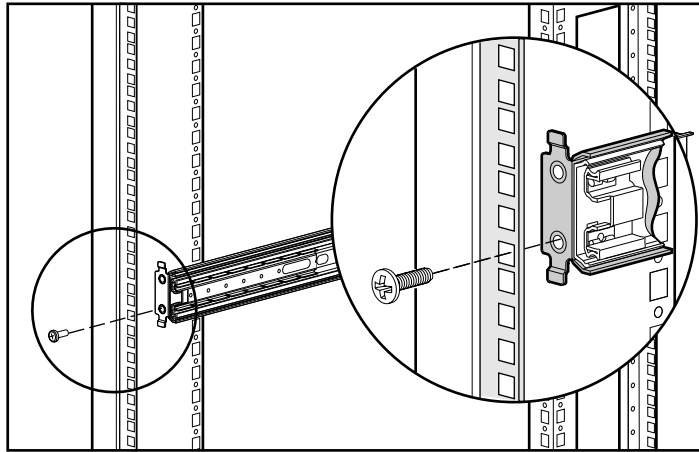

Figure 3-10. Attaching mounting bracket assembly to the front of the rack
- IMPORTANT:** Use only the bottom hole of the bracket as shown in Figure 3-10.